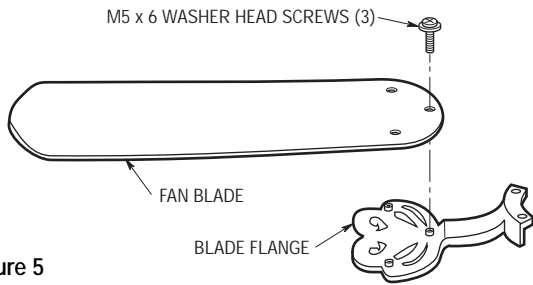

Figure 5
8. Mount blade flanges to fan blades using three M5 x 6 washer head screws (Figure 5).